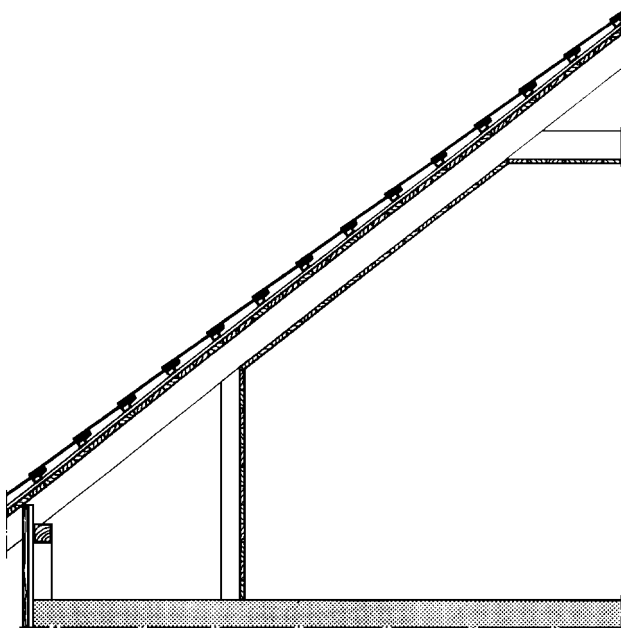

Figure 2.40
2.40 Roof over an attic space in 2 story house. An example of such roof construction is shown in Figure 2.40.